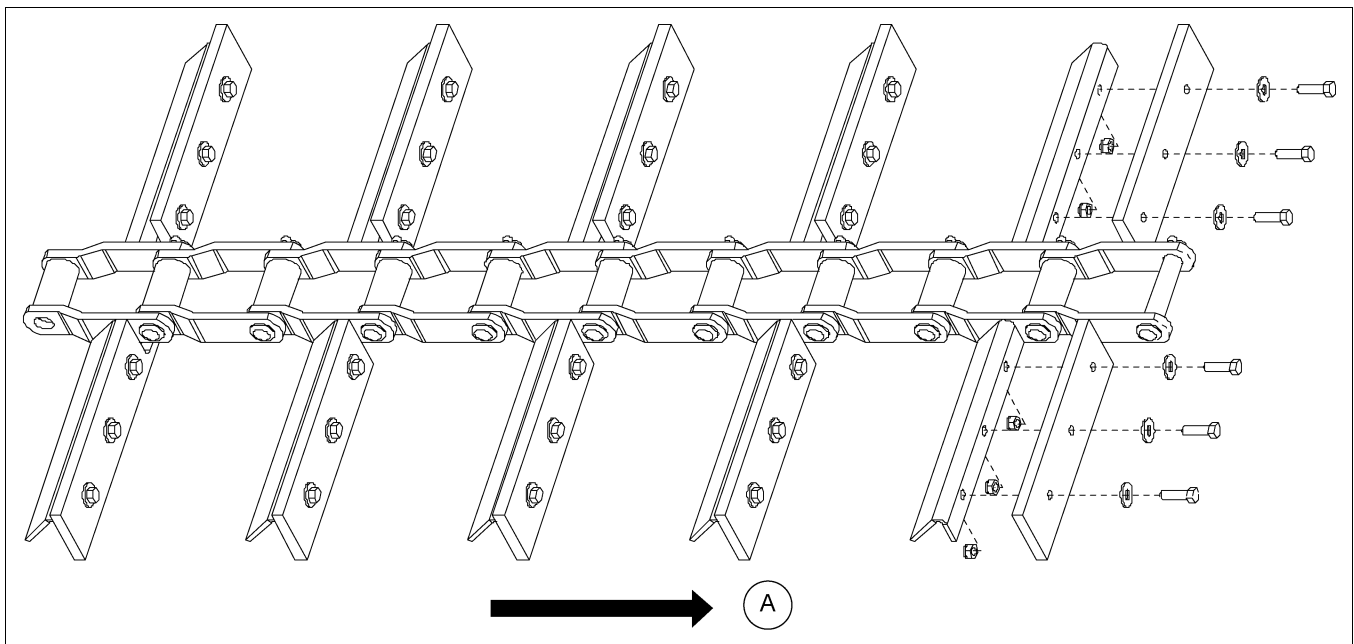

Figure 5F
It is recommended however, that you position the chain over the slide rail returns and the sprockets in the head and tail assemblies. The UHMW wear pads should be in front of the welded chain flights in the direction of chain travel (A). (See Figure 5F.) Connect chain lengths together with connecting links and/or pins.